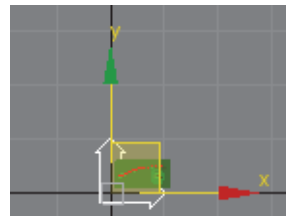

Figure 3–28
5. In the Status Bar, verify that  (Absolute Mode Transform) is displayed. In the X edit box, enter **-9901'0"**. Click in the Y edit box, enter **-9901'0"**, and press <Enter>, as shown in Figure 3–29.